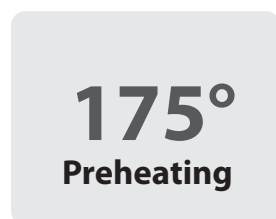

Figure 3.2: Preheating
3. When the oven finishes preheating (Figure 3.2), insert the dish.